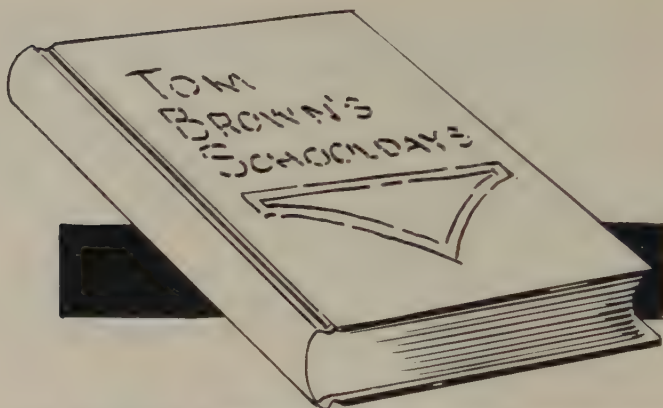
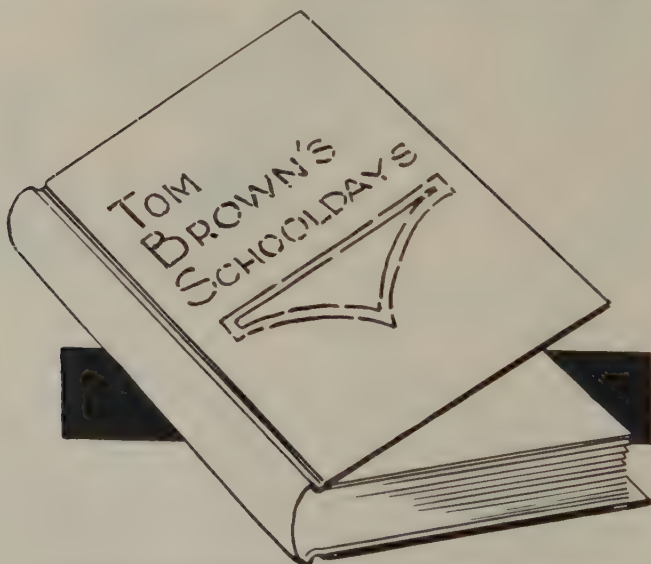

FIG. 215—BOOK FITTED INTO COVER THAT IS CORRECT SIZE
FIG. 216—BOOK SET IN COVER TOO SMALL FOR BOOK
3. Bring the left hand half of cover and the back edge of cover up over "round" of book until left hand cover board lies flat against top side of book. (Fig. 215.)
4. If your book will go in cover like Fig. 215 and cover boards will *lie flat*, the cover is large enough. If, however, you cannot get cover to close flat, and it remains like Fig. 216 your cover is too small and a new one must be made.